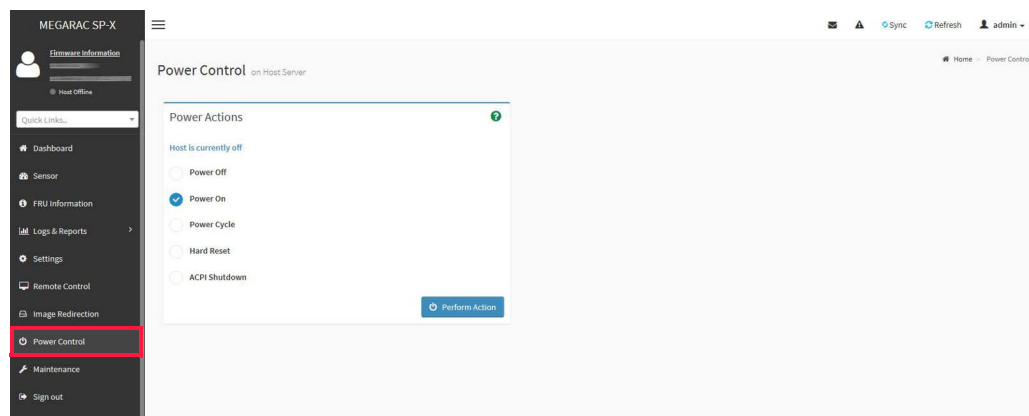

Figure 4.6 Power Control menu
5. Click **Power Control** on the WebUI menu (shown in Figure 4.6) to control server power by selecting the appropriate option.